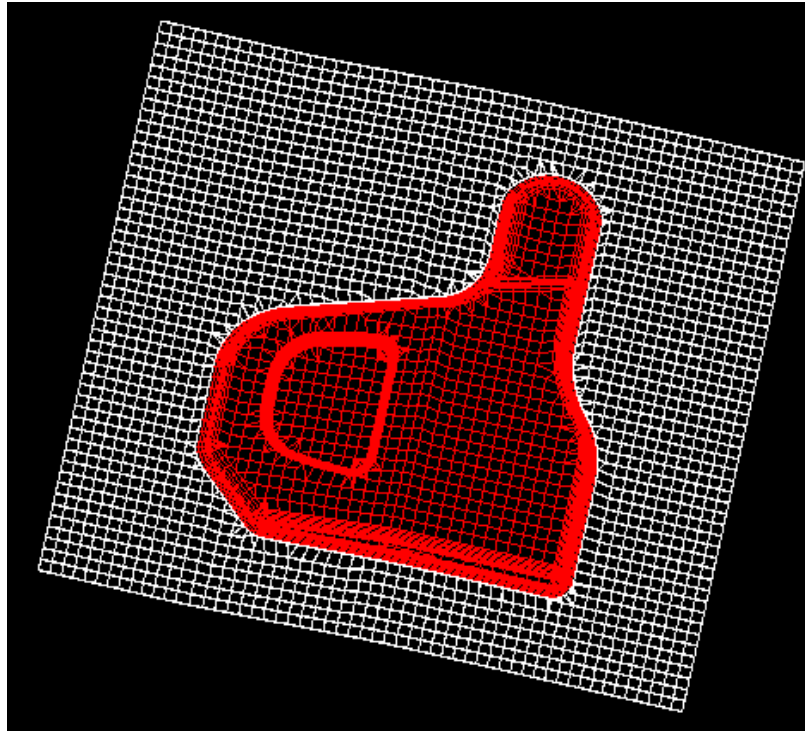

Figure 5.55 Selected elements
25. Pick an element on the binder region to highlight all elements of binder surface, as illustrated in Figure 5.55. The program prompts 2014 elements have been selected.